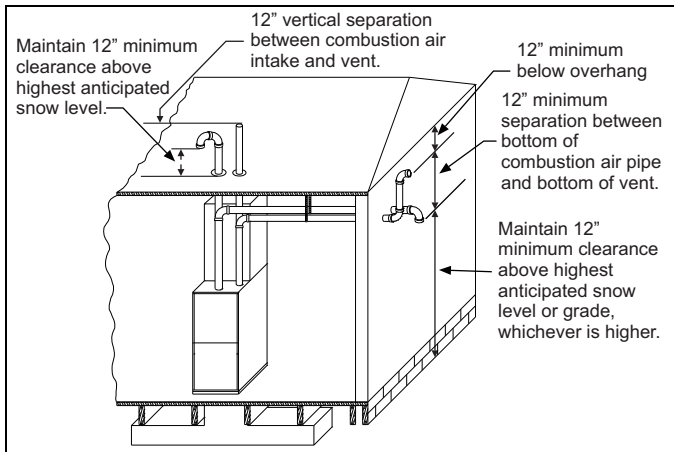
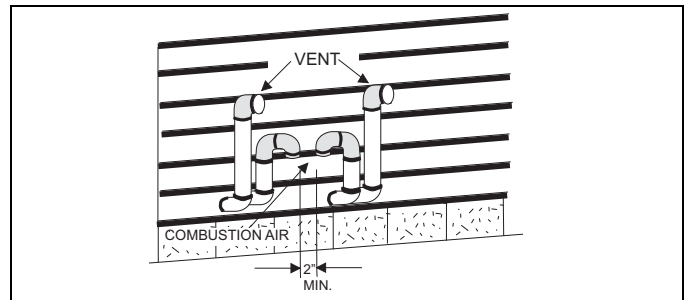

FIGURE 33: Termination Configuration - 2 Pipe
FIGURE 35: Double Horizontal Combustion Air Intake and Vent Termination
7. Direct vent systems must be installed so the vent and the combustion air pipes terminate in the same atmospheric zone. Refer to Figures 33 or 34.
The combustion air side of the two-pipe configuration shown in Figure 33 can be installed so the combustion air pipe terminates as described in outdoor combustion air or ventilated combustion air sections in these instructions. Follow the instructions for outdoor combustion air or ventilated combustion air and the instructions for installing the vent system with the vent terminating as shown in Figures 35 or 36. The two-pipe system must have a separate combustion air pipe and a separate vent pipe for each furnace. Under NO circumstances can the two combustion air or vent pipes be tied together. The combustion air and vent pipes must terminate in the same atmospheric zone.